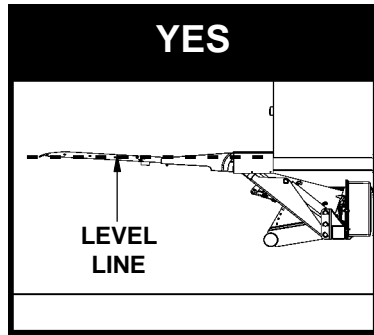

FIG. 14-1
6. Make sure Platform is positioned like the YES illustrations in **FIG. 14-1** and **FIG. 14-2**. At bed height with no load, outboard edge of Platform must be higher than extension plate (**FIG. 14-1**).